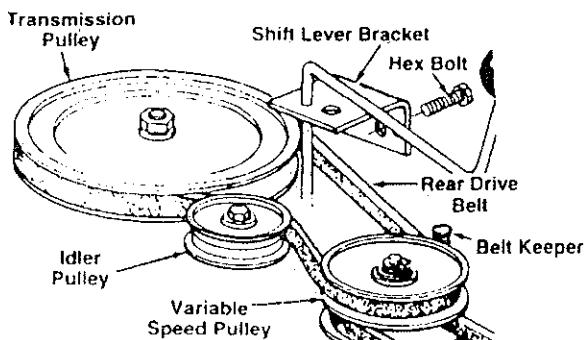

FIGURE 23
3. Remove belt keeper from the variable speed bracket assembly. See figure 23.
4. Push the idler pulley toward the right side of the unit. Lift the belt over the idler pulley. See figure 23.
6. Remove the two bolts which hold the shift lever bracket to the frame on the left side of the unit. Swing the bracket toward the right so the belt can be removed from the transmission pulley. See figure 23.